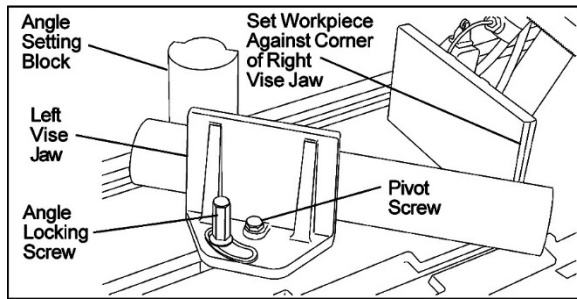

Figure 6: Adjusting vise
1. Loosen angle locking screw and pivot screw on left vise jaw. See Figure 6.